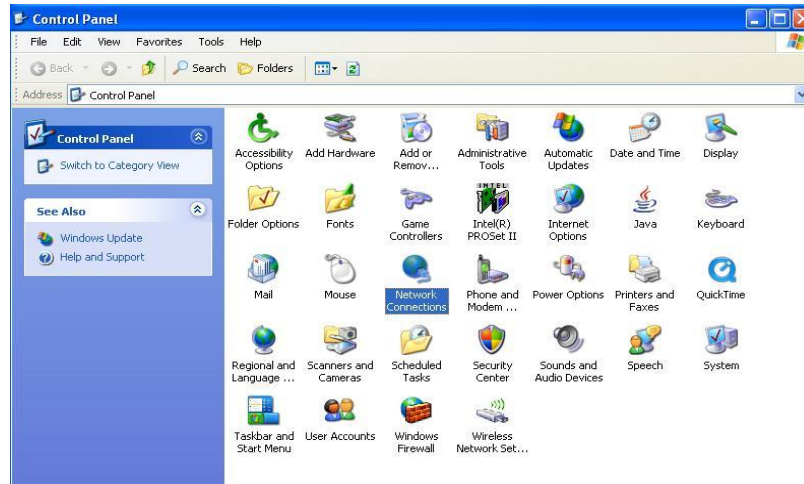

Figure A-3: Classic View for IP Address
3. Look at the left side of the *Control Panel* screen to ensure the system is in Classic View (Figure A-3) and not in Category View.